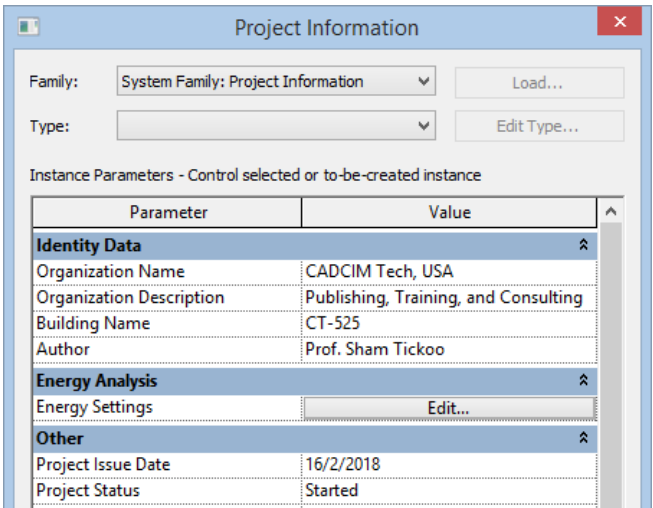

Figure 2-30 The partial view of the *Project Information* dialog box
- d. Specify the project information, refer to Figure 2-30.
- 2. In the **Project Information** dialog box, specify the project parameters as given in Figure 2-30.